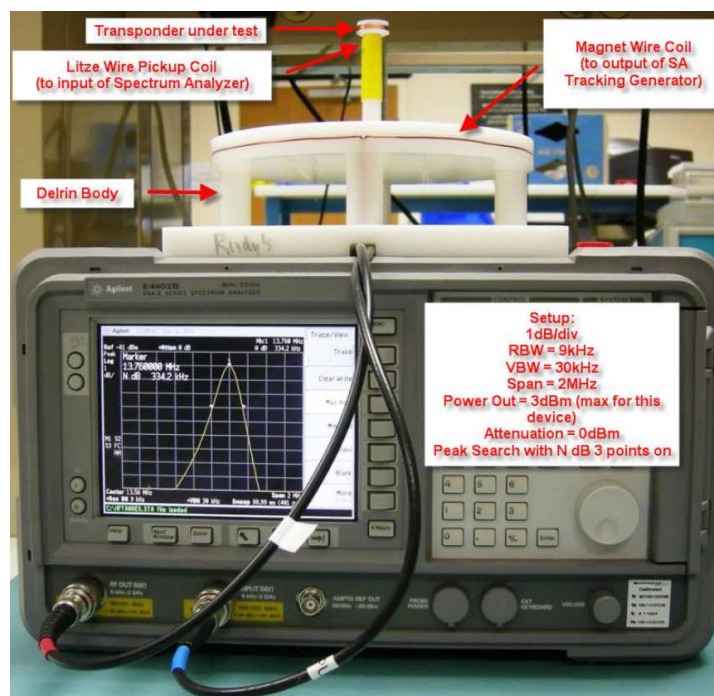
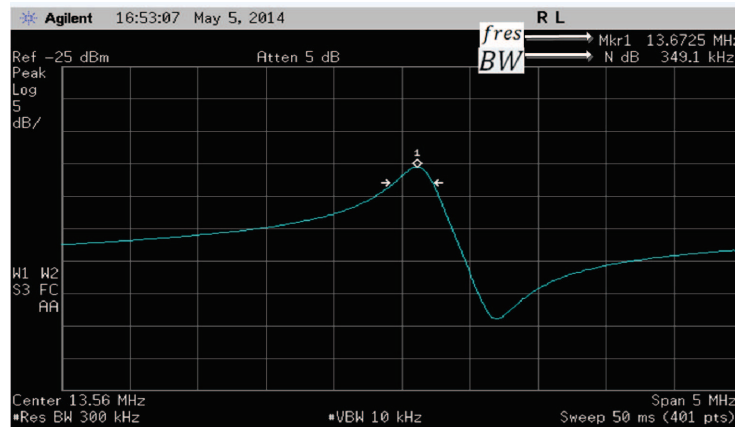

Figure 13. Frequency and Bandwidth Measurement Fixture
Figure 14. Antenna Q Measurement
The resonant frequency and bandwidth should be captured using a spectrum analyzer with tracking generator (such as Agilent E440x). The test fixture should consist of a pickup coil connected to the input of the spectrum analyzer and a larger coil connected to the output of the spectrum analyzer tracking generator as shown in Figure 13.
4. At about –60dBm reference level with a vertical scale of 1 dB/div, the resonance curve will be shown as illustrated in Figure 13 and Figure 14.
6. The quality factor is calculated by dividing the resonant frequency by the measured bandwidth. The example in Figure 14 shows a Q value of ~39.